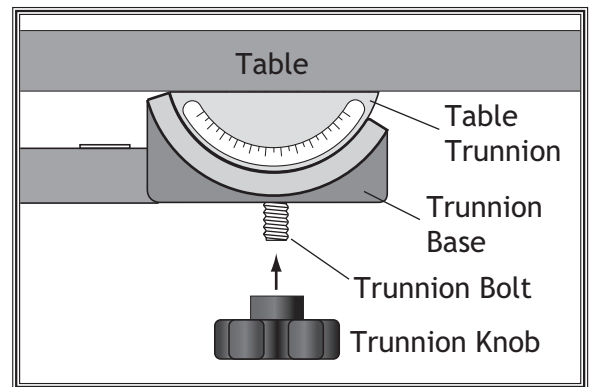

Figure 11. Installing the table on trunnion base.
4. Thread the two table trunnion knobs onto the trunnion bolts, as illustrated in Figure 11.